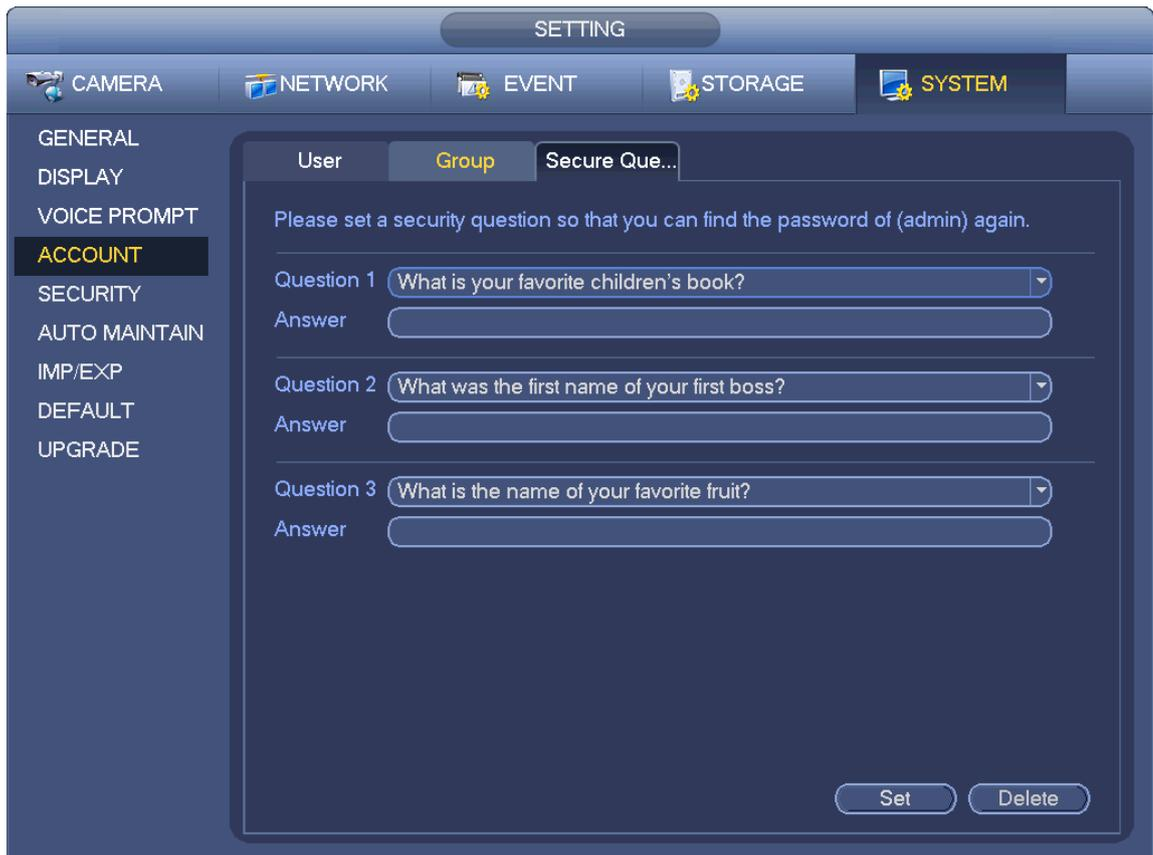

Figure 4-119
Step 1 Click Security question, enter the following interface. See Figure 4-119.